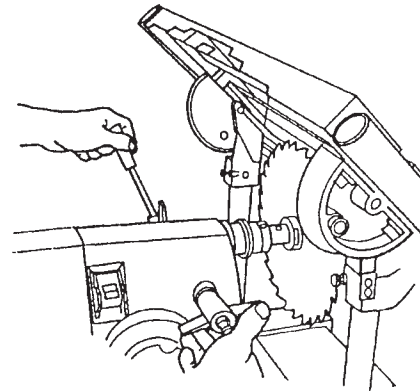

Figure C-35
31. Loosen the tilt lock and tilt the worktable to the right until it makes contact with the two 45° stop bolts (158).
33. Loosen the quill feed (shown in Figure C-35) and extend the quill so the saw blade is centered beneath the slot in the table insert. When it is centered, lock the quill feed.